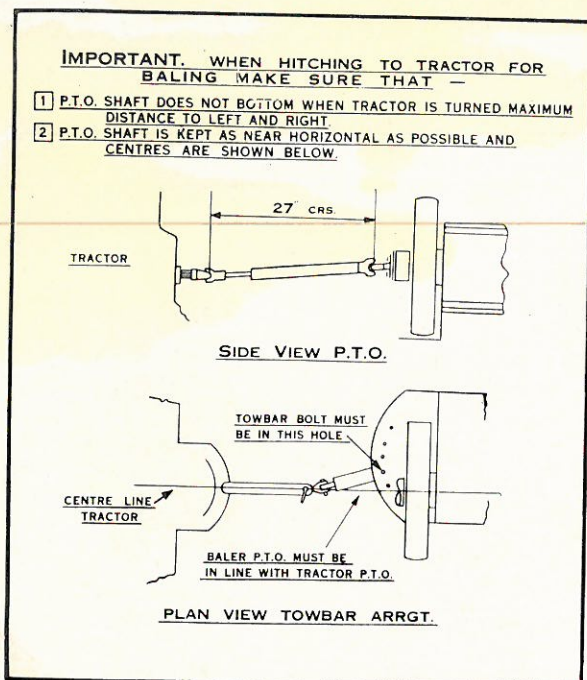

Fig. 1
1. Ensure that the tractor draw bar hitch point is in direct line with the tractor P.T.O. Shaft. (Fig. 1).
Measure between the shaft journals to ensure that the measurement is correct. (Fig. 1).
Check that the hitch point is immediately below the P.T.O. Shaft Assembly (Fig. 1). Install a hitch adaptor plate if necessary, to secure the correct dimension.